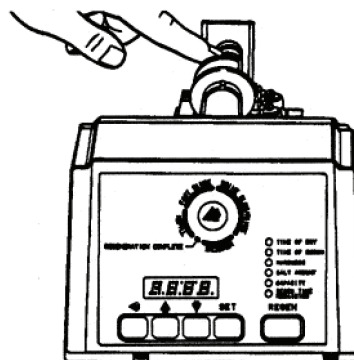
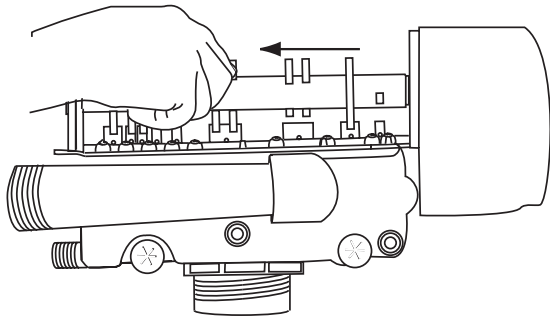

Figure 5.5
Figure 5.6
5. To remove the camshaft or to reinstall it, the arrow on the rear of the cam shaft must be pointing at the line on the rear "hoop" of the top plate. This occurs when the cycle indicator is rotated to the refill position. Press down on the back of the camshaft to disengage it from the rear "hoop" of the top plate, Figure 5.5. Slide the camshaft back to disengage it from the timer, Figure 5.6.